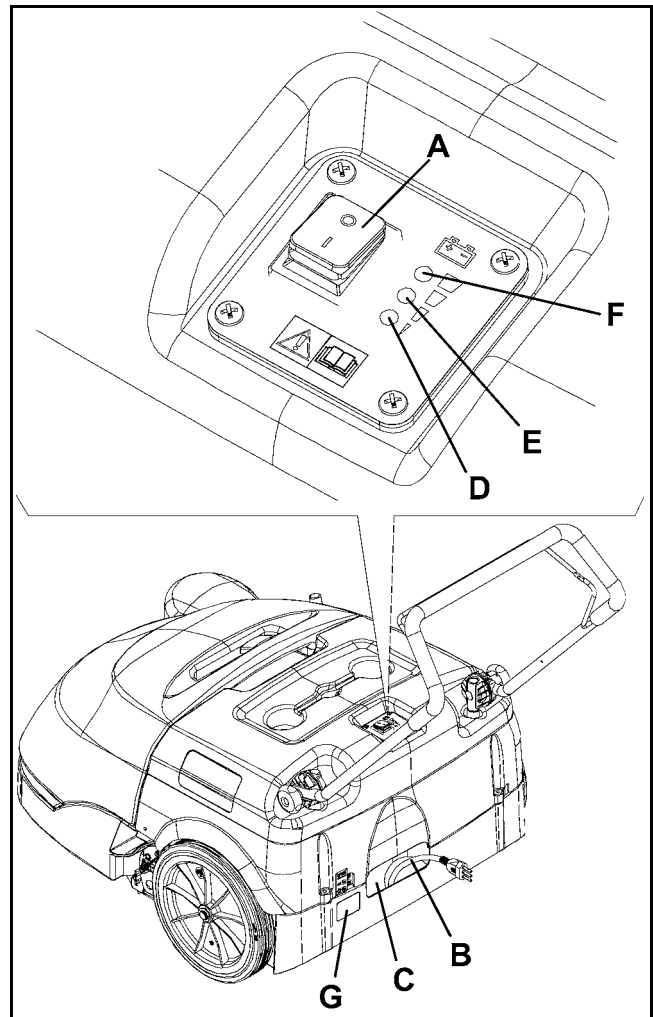

Figure 21
2. Turn the main switch (A, Fig. 21) to "0".
3. Remove the battery charger cable (B, Fig. 21) from the housing (C) and connect it to the electrical mains.
Before connecting the battery charger cable (B, Fig. 21) to the electrical mains, check that the mains voltage (Volt) and frequency (Hz) match the values shown on the serial number plate (G, Fig. 21). In case of doubt, do not connect the plug to the electrical mains, but contact the qualified personnel.
4. While charging the battery, the red warning light (D, Fig. 21) and the yellow warning light (E) turn on in sequence. When the green warning light (F) turns on, the battery is charged.
5. Disconnect the battery charger cable (B) from the electrical mains and place it on the housing (C).